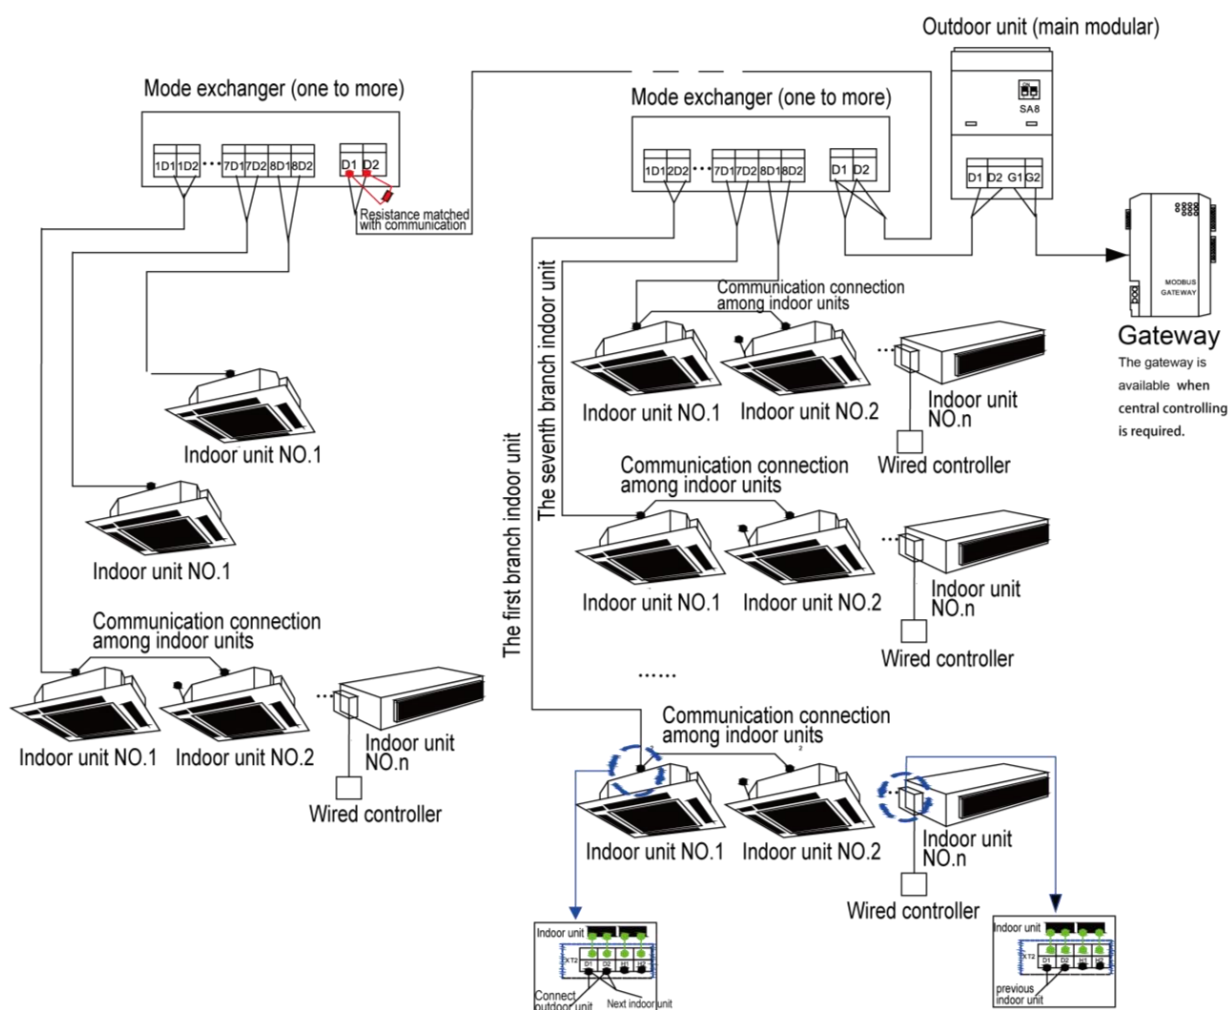

Fig. 5.11
- (1) Open electric box cover of indoor unit.
- (2) Pass the communication wire through rubber ring.
- (3) Connect communication wire to wiring board OD(D1, D2) of outdoor unit of mode exchanger.
- (4) Connect communication wire lead from D1 and D2 terminal of 4-bit wiring board of indoor unit to wiring board ID1(1D1, 1D2) of indoor unit of mode exchanger; ID2(2D1, 2D2.....ID-n(nD1, nD2), $n \leq 8$, As shown in fig.5.11